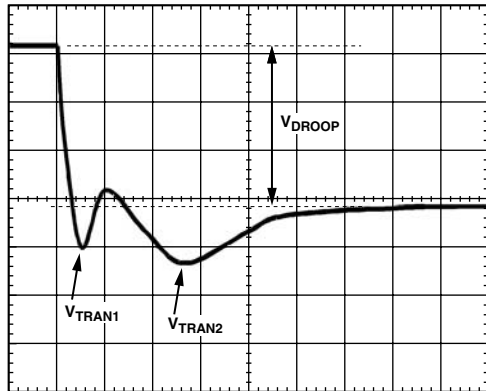
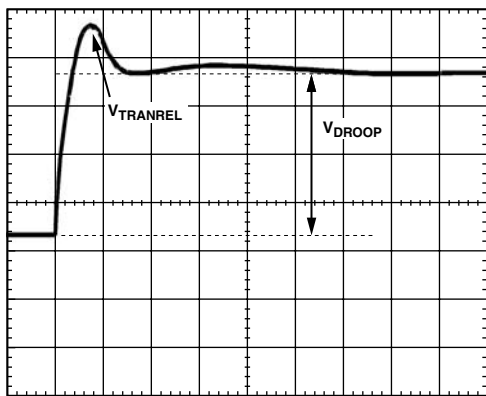

Figure 4. Transient Setting Waveform
Figure 5. Transient Setting Waveform
19. With dynamic load still set at maximum step size, expand scope time scale to see  $2 \mu\text{s}/\text{div}$  to  $5 \mu\text{s}/\text{div}$ . The waveform may have two overshoots and one minor undershoot (see Figure 5). Here,  $V_{\text{DROOP}}$  is the final desired static value.
21. For load release (see Figure 5), if  $V_{\text{TRANREL}}$  is larger than  $V_{\text{TRAN1}}$  (refer to Figure 4), there is not enough output capacitance. Either more capacitance is needed or it is necessary to make the inductor values smaller (if inductors are changed, it is necessary to start design over using the spreadsheet and this tuning guide).